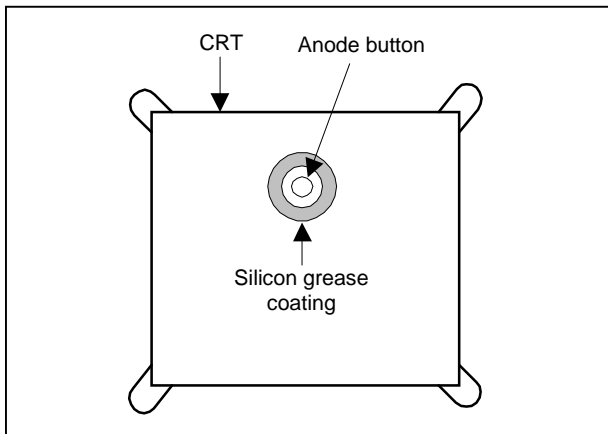

Fig. 8
- Subsequent to replacement of the CRT and HV transformer or repair of the anode cap, etc. by dismantling them, be sure to coat silicon grease for electrical insulation as shown in Fig.8.
- Wipe around the anode button with clean and dry cloth. (Fig.8)